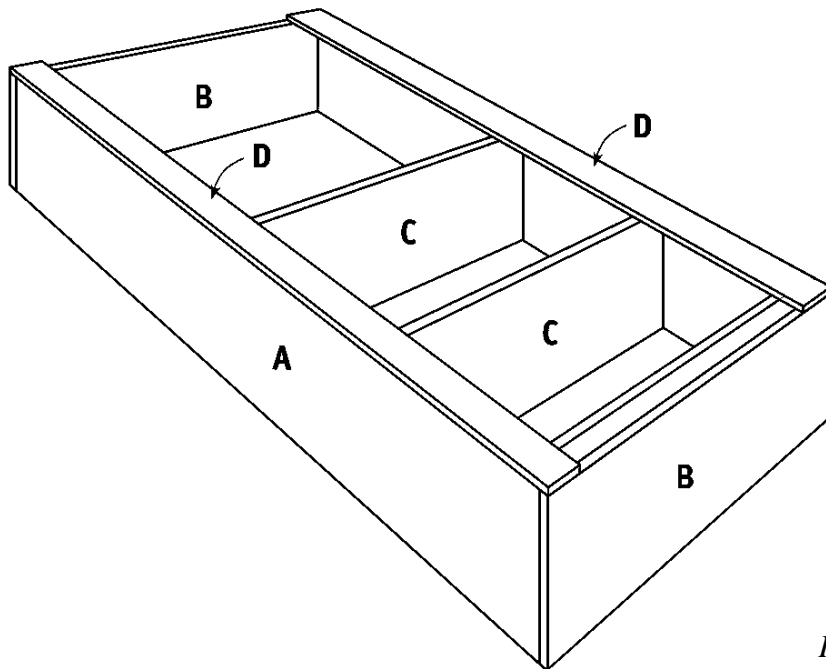

Figure 2
1. Cut two Vertical Trims (D) from 1 x 4 pine, each measuring 64-3/4 inches. Apply glue to the meeting surfaces, and place one Vertical Trim (D) over the edge of one Side (A). Screw through the Vertical Trim (D) into the edge of Side (A) as shown in *Figure 2*. Use 1-5/8" wood screws about every 5 inches.